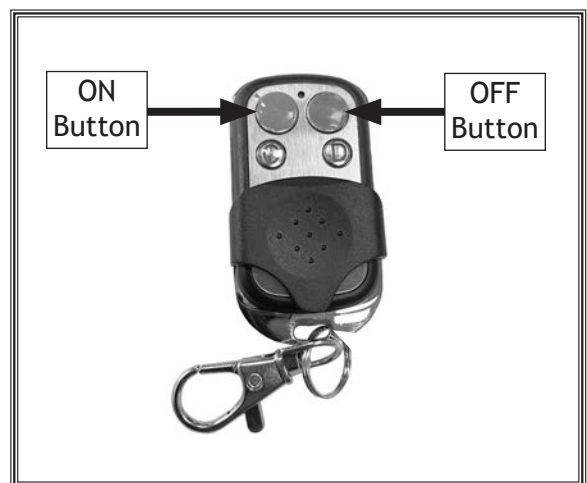

Figure 57. ON and OFF buttons.
3. Press either ON or OFF button on remote (see **Figure 57**). When LED indicator stops flashing, remote control is programmed.